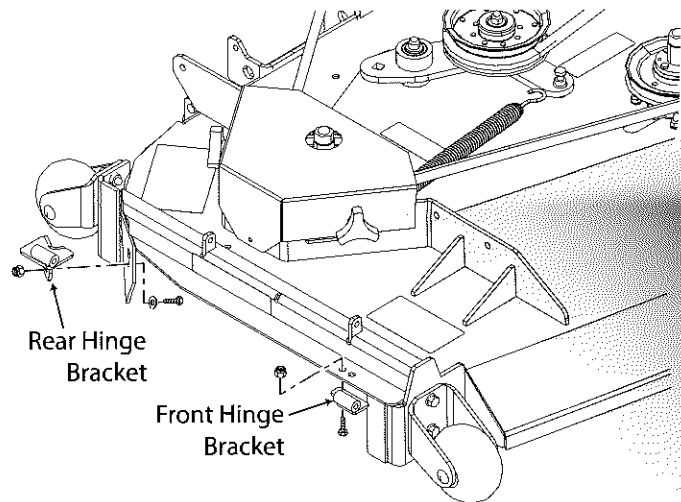

Figure 3-3. Hinge Weldment Installation
5. Install the rear hinge bracket to the cutter deck using one (1) 5/16-18 x 1" bolt, one (1) 5/16" flatwasher and one (1) 5/16-18 elastic stop nut. Do not tighten the hardware. See Figure 3-3.
15. Install the front hinge bracket to the cutter deck using two (2) 5/16-18 x 3/4" bolts and two (2) 5/16-18 elastic stop nuts. See Figure 3-3, Page 6. Do not tighten the hardware.